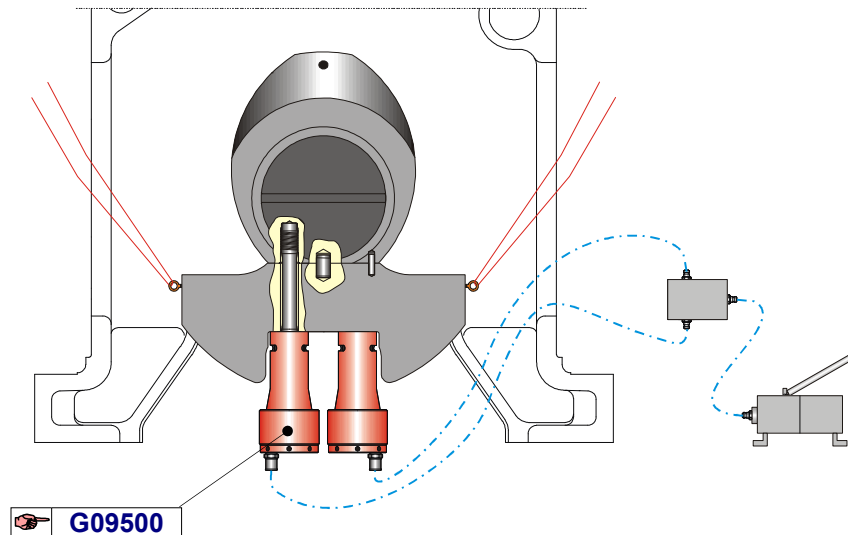

Fig.1 Mount hydraulic tools on counter weight (카운터 웨이트에 유압 공구의 설치)
1. Install the lifting rope to the crank web as shown in fig. 1.